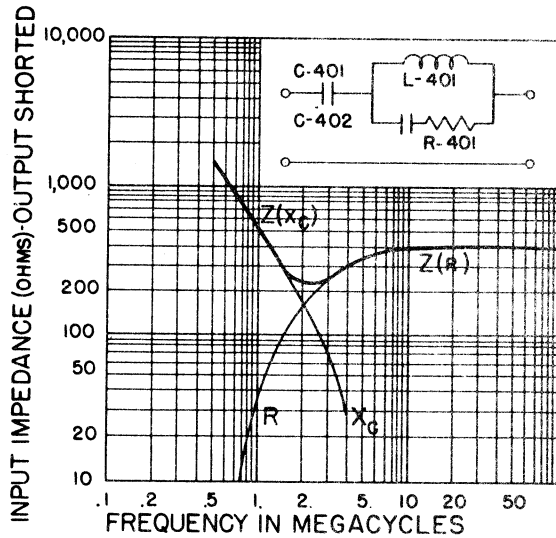

Figure 2-16. Schematic Diagram of the Antenna Simulator SM-35/URM-25 with Input Impedance-Frequency Curve
(See figure 2-16).
c. From the impedance curve (figure 2-16), it can be seen that the minimum impedance of the antenna simulator will be approximately 220 ohms. When using this unit, first connect one end of the Impedance Adapter MX-1074/URM-25 to the output cable (W-104) and plug the other end of W-104 into J-102 on the signal generator. Using the auxiliary cable (W-105), connect the antenna simulator to the impedance adapter. If necessary, the second auxiliary cable (W-106) may then be used to connect the antenna simulator to the receiver under test.
d. In using the antenna simulator, it should be realized that the significant voltage is the input and not output voltage of the antenna simulator. The reason for this is that the antenna simulator approximates a standard antenna which forms a part of the overall sensitivity measurement of a receiver designed for use with it. For example; if the output frequency of the signal generator is 20 mc, it can be seen, from figure 2-16 that the series impedance of the antenna simulator will be approximately 400 ohms resistive. Make the necessary connections as indicated in paragraph 11c of this section. A meter indication of 10,000 microvolts represents an input voltage of 10,000 microvolts to the antenna simulator.
e. For accurate receiver output voltage indication, it should be remembered that the total load impedance represented by the antenna simulator in series with the load of the instrument under test should be at least 500 ohms. From figure 2-16, it is apparent that the accuracy will be sufficiently good at frequencies above 5mc. Below 5mc, the impedance falls off to approximately 220 ohms and the receiver input load should be sufficiently high (approximately 280 ohms or greater) to maintain the accuracy.